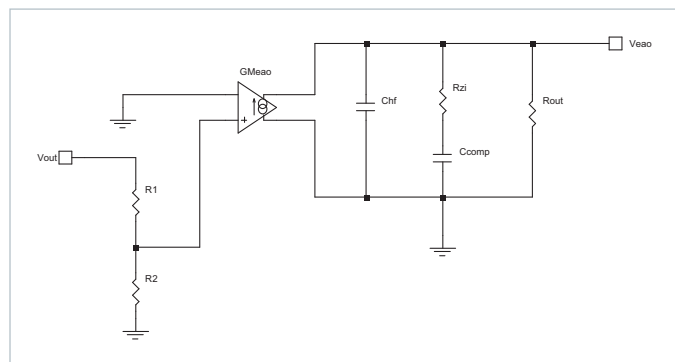

Figure 56 — PI354X Error Amplifier Model
The small signal model of the error amplifier and compensator is shown in Figure 56. The error amplifier is a trans-conductance amplifier (TCA). The transfer function is shown in Equation (5), where in this example R1 = 2.3k, R2 = 1k, GMeao = 5.1mS, R_{OUT} = 1Meg, Chf = 56 pF, Ccomp = 4.7 nF and Rzi = 5 k. Here it is important to note that the external components are Ccomp, R1 and R2. The other components are internal to each specific model. See the data tables section “Soft Start, Tracking And Error Amplifier” for details.